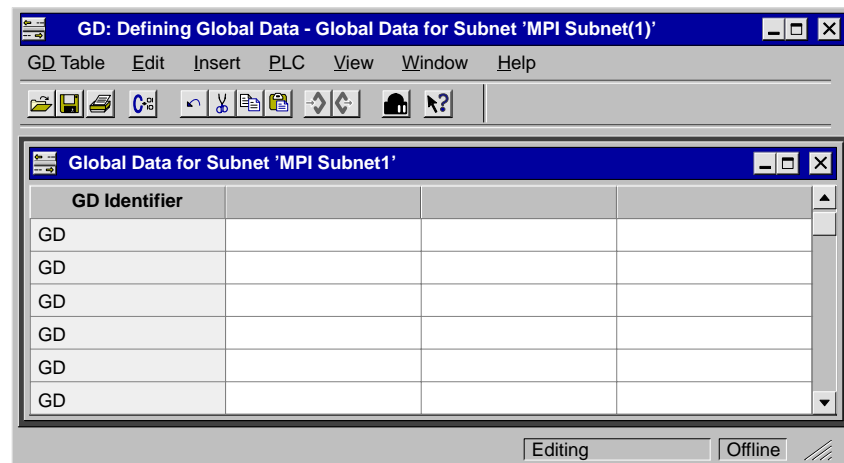

Figure 9-2 View of a New Global Data Table
**Result:** A new global data table is created or an existing table opened which is displayed on the screen (see Figure 9-2).